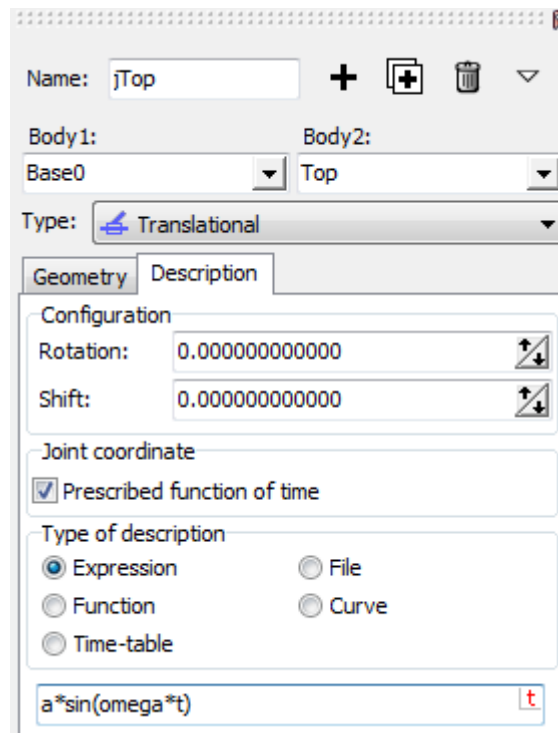

Figure 2.9. Prescribed function of time
6. Set **Type of description** to **Expression**, and then input  **$a*\sin(\omega*t)$** , see Figure 2.9, and press **Enter**.